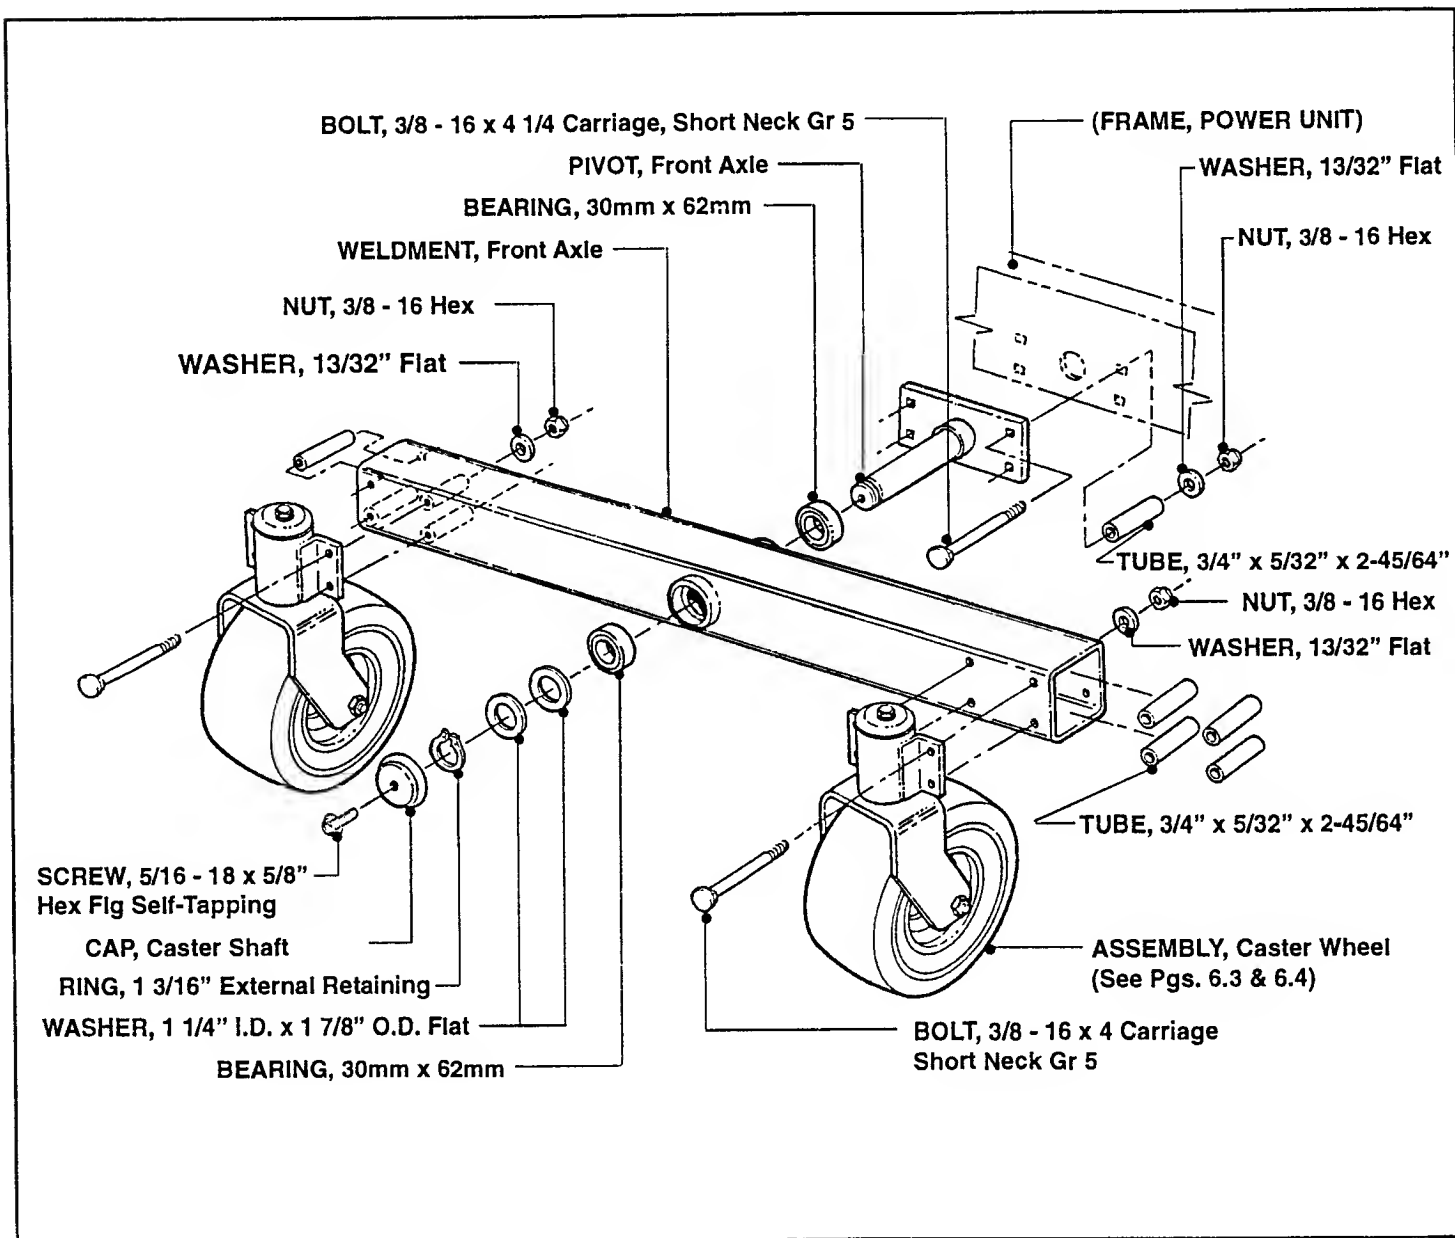

FIGURE 6.1
Components of the Caster Wheel/Front Axle Assembly are shown in Figure 6.1 above.
3. Remove Caster Shaft Cap. Refer to Figure 6.1.
5. Remove two (2) 1-1/4" I.D. x 1-7/8" O.D. Flat Washers.
1. Remove existing Bearings by driving them to the outside with a Drift Pin. (The Bearing bosses have a machined seating surface. Bearings cannot be removed by driving them inward). Refer to Figure 6.1.
2. Remove the four (4) 3/8 - 16 Hex Nuts, 13/32" Flat Washers and 3/8 - 16 x 4" Carriage Bolts from the Axle Pivot and Power Unit Frame. Refer to Figure 6.1.
When removing the Nuts, Washers and Carriage Bolts from the Front Axle Pivot, the Spacer Tubes may remain in place. This is O.K. - their removal is not necessary in order to replace the Axle Pivot. Refer to Figure 6.1.